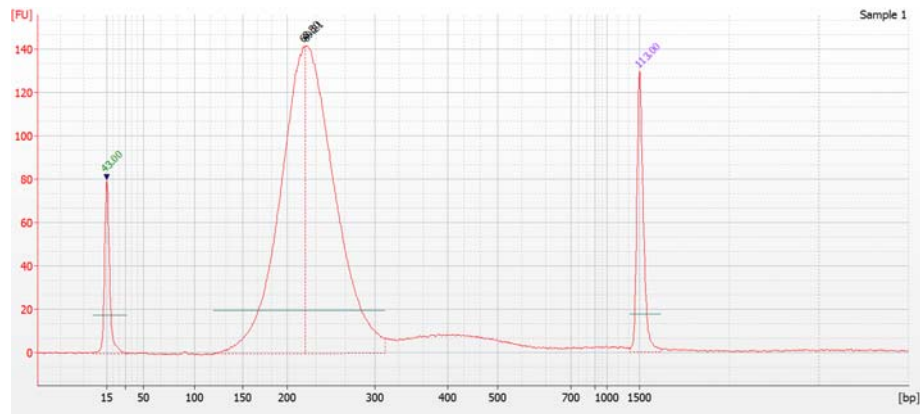

Figure 3 Analysis of amplified library DNA using a DNA 1000 Bioanalyzer assay.
- 6 Check that the electropherogram shows a distribution with a peak sized at approximately 220 bp. Note that high molecular weight PCR products sized around 400 bp do not affect capture performance. A sample electropherogram is shown in Figure 3.